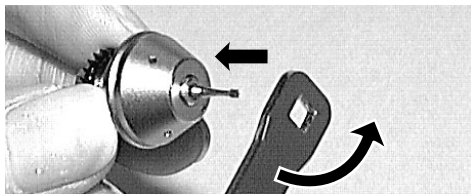

Fig.18
- ② Hold the rotor with two fingers as shown in Fig.18.